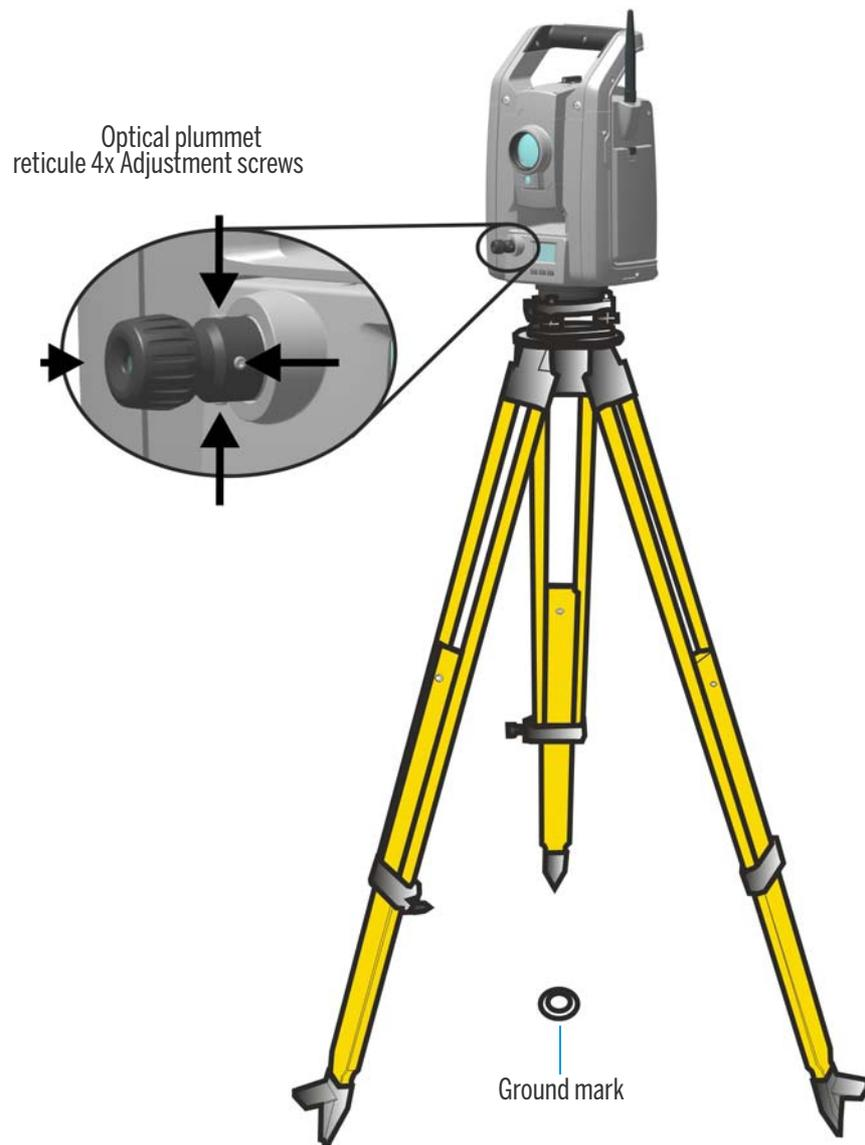

Figure 3.11 Optical plummet adjustment
1. Set up the instrument and level it over a ground mark so that the tripod height is 1.5 m ( $\pm 0.1$  m) (4.920 ft. ( $\pm 0.328$  ft.)). Figure 3.11